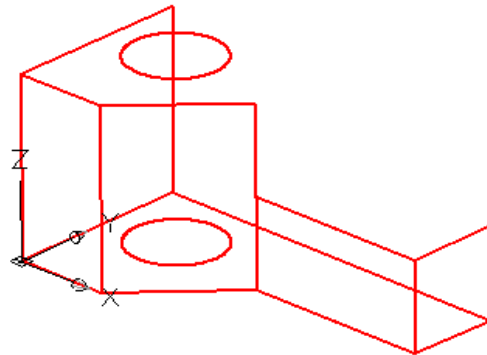

Figure Step 11
Step 11 Using the LINE command, draw six lines between the ends of the existing lines as shown in Figure Step 11. Ensure you snap to the ends of the lines.
Step 12 Using the COPY command, copy the short line located at the right end of the model twice as shown in Figure Step 11. Ensure you use snap mode to locate the lines exactly.